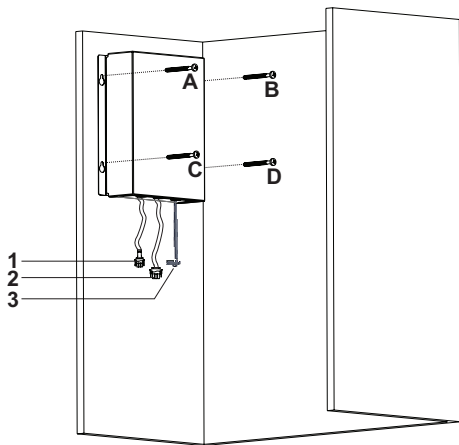

Fig. 15
2. → Mount the circuit box in the cupboard with 3.5x16 screws through points A, B, C, D (Fig. 15).